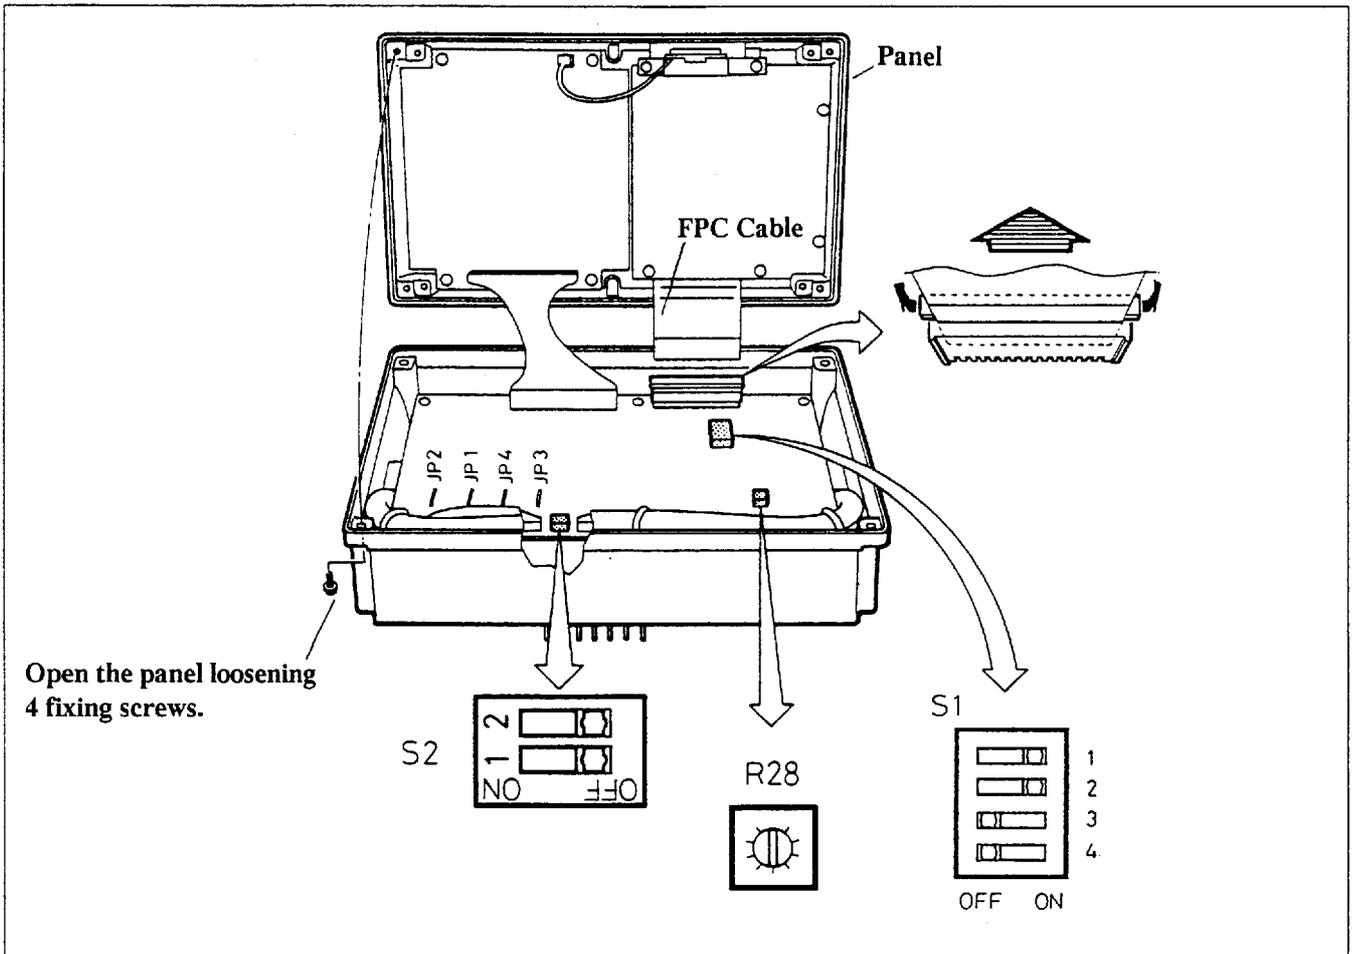

Fig.7.5
Refer to Fig. 7.5 for the location of S1/S2 on the MAIN board.
- c. Depth window indicates the output of the amplifier at the selected depth in step a. The indication should be between 200 and 254. If not, adjust R28(GAIN POT) referring to the Fig. 7.5.